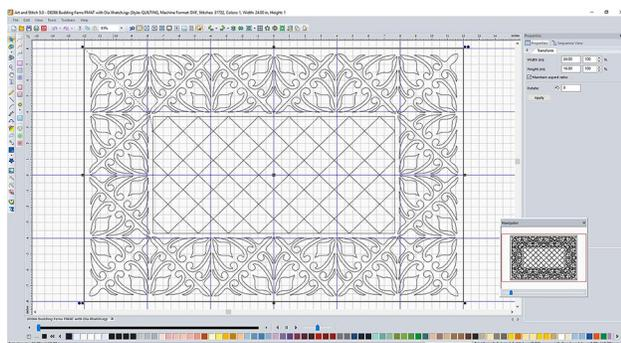

Fig. 89
4. When the file opens, use the Select Tool to select the design (black box will form around it) (Fig. 89).